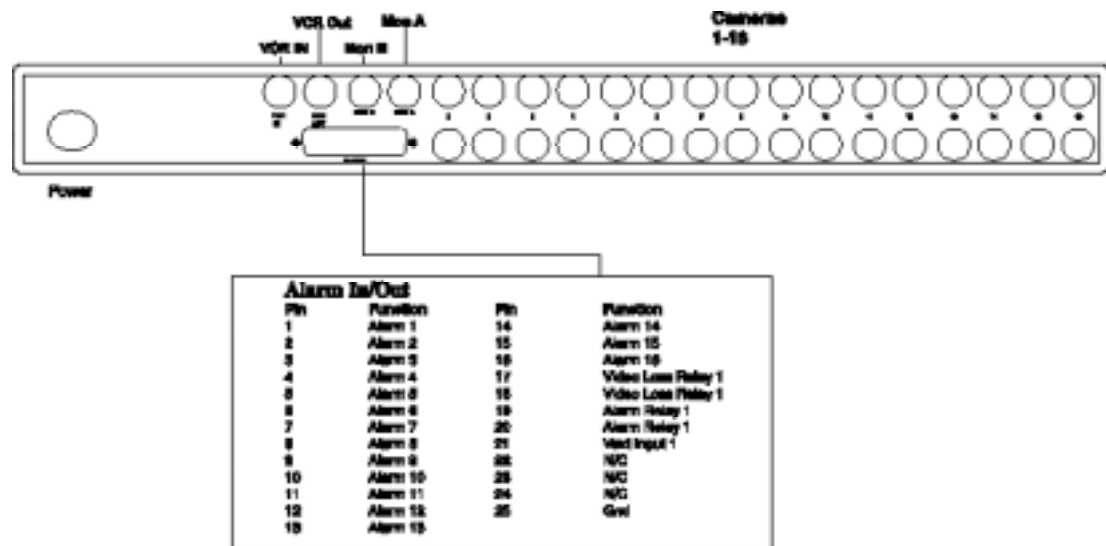

Figure 2A: 16-channel Back Panels
1. Refer to Figures 2A, 2B, and/or 2C for details on the input/output connections supplied by the multiplexer. (Be sure to reference the appropriate drawing for your multiplexer model.)